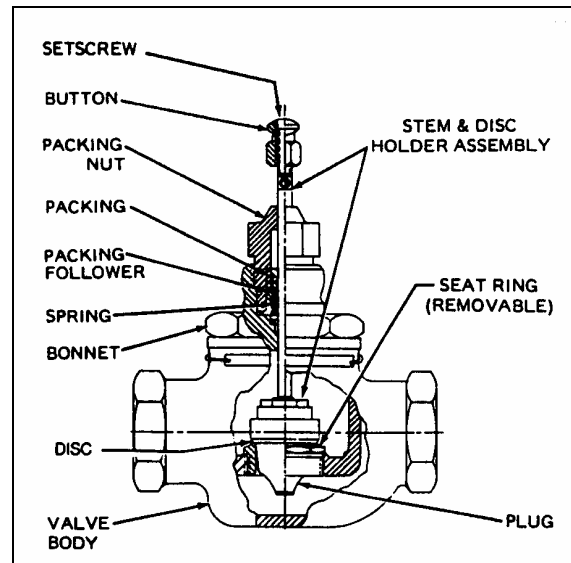

FIGURE 36: VALVE BODY ASSEMBLY
4. Remove stem and plug. Direct acting threaded body valves (Fig. 36). Unscrew the bonnet. Lift out the stem and disc holder assembly and the plug.
5. Disassemble stem and plug. Threaded body valves. Unscrew plug (Fig. 36) from stem to remove disc and spring. The disc may have to be pried from the disc holder with a screwdriver. The valves have a staked stem and disc holder assembly (Fig. 36). The stem and plug cannot be disassembled on some valves with metal-to-metal seats.